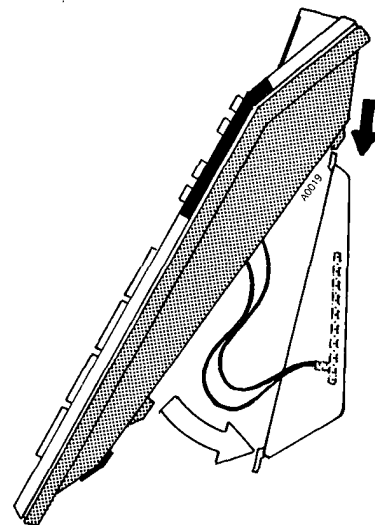

Figure 7 SECURING TELEPHONE INTO MOUNTING KIT, EK-616
- Connect ribbon cord and assure ribbon cable terminals are facing connector terminals ( Figure 7 ).
- Secure telephone into mounting kit ( Figure 7 ).